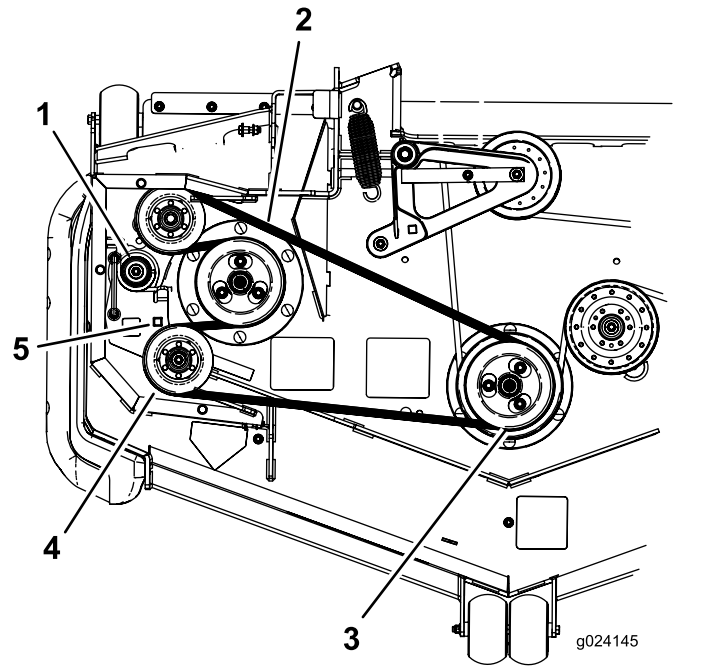

Figure 89
7. Use a ratchet in the square hole in the idler arm to remove tension on the idler spring (Figure 89).
8. Remove the belt from the mower deck pulley (Figure 89).
9. Remove the belt from the remaining pulleys (Figure 89).
11. Using the ratchet in the square hole, remove the tension on the spring, and guide the new belt around the idler pulley (Figure 89).